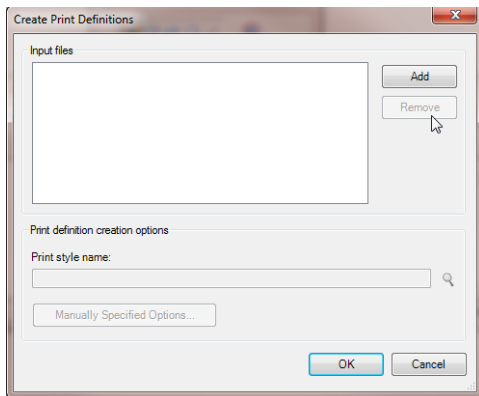

Figure 2
- You will now see the add files dialog shown below in figure 2.